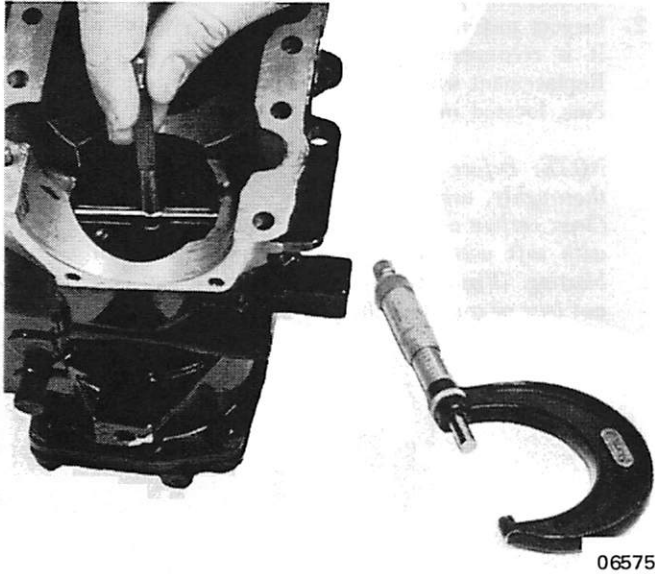

Figure 1. Checking Cylinder
4. Check cylinders for wear with an inside telescopic gauge and micrometer. (Figure 1) On engines, which display evidence of over-heating, bore should be checked for out-of-round. If worn or out-of-round (maximum .003"-.004"), rebore to .015" and install oversize piston and rings (if available).